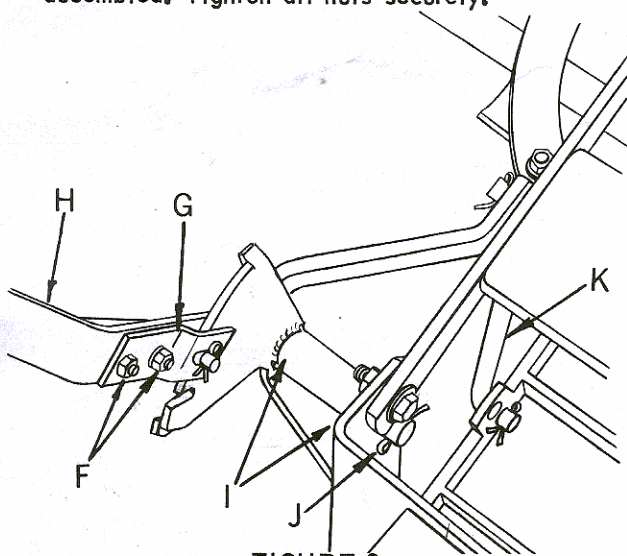

FIGURE 3
3. Refer to Figure 3. Loosen two nuts (F) holding lower lever clip (G) to lever and arm (H). Slide shaft of lever and arm assembly (H) (lift lever) into socket of rear frame assembly (I). Rotate lever